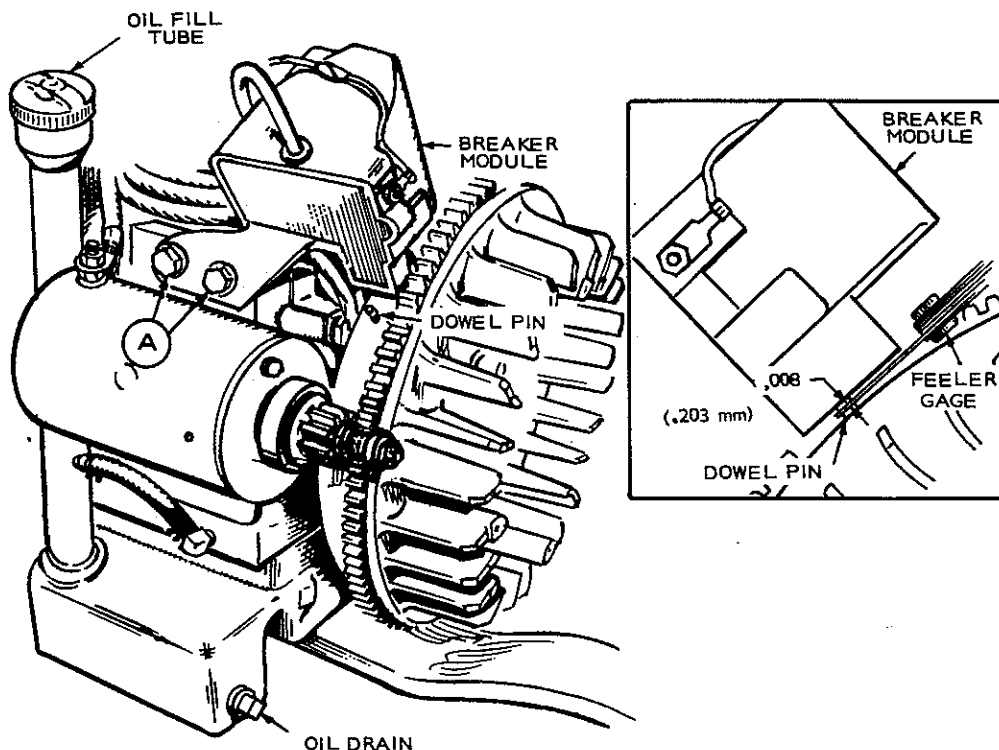

FIGURE 10-31. BREAKER PIN GAP ADJUSTMENT
1. The outer rim of the flywheel has a dowel pin protruding about 3/16" from the surface. See Figure 10-31. When this pin passes below the breaker module assembly, the spark is discharged to the spark plug, thus firing the fuel mixture in the combustion chamber.